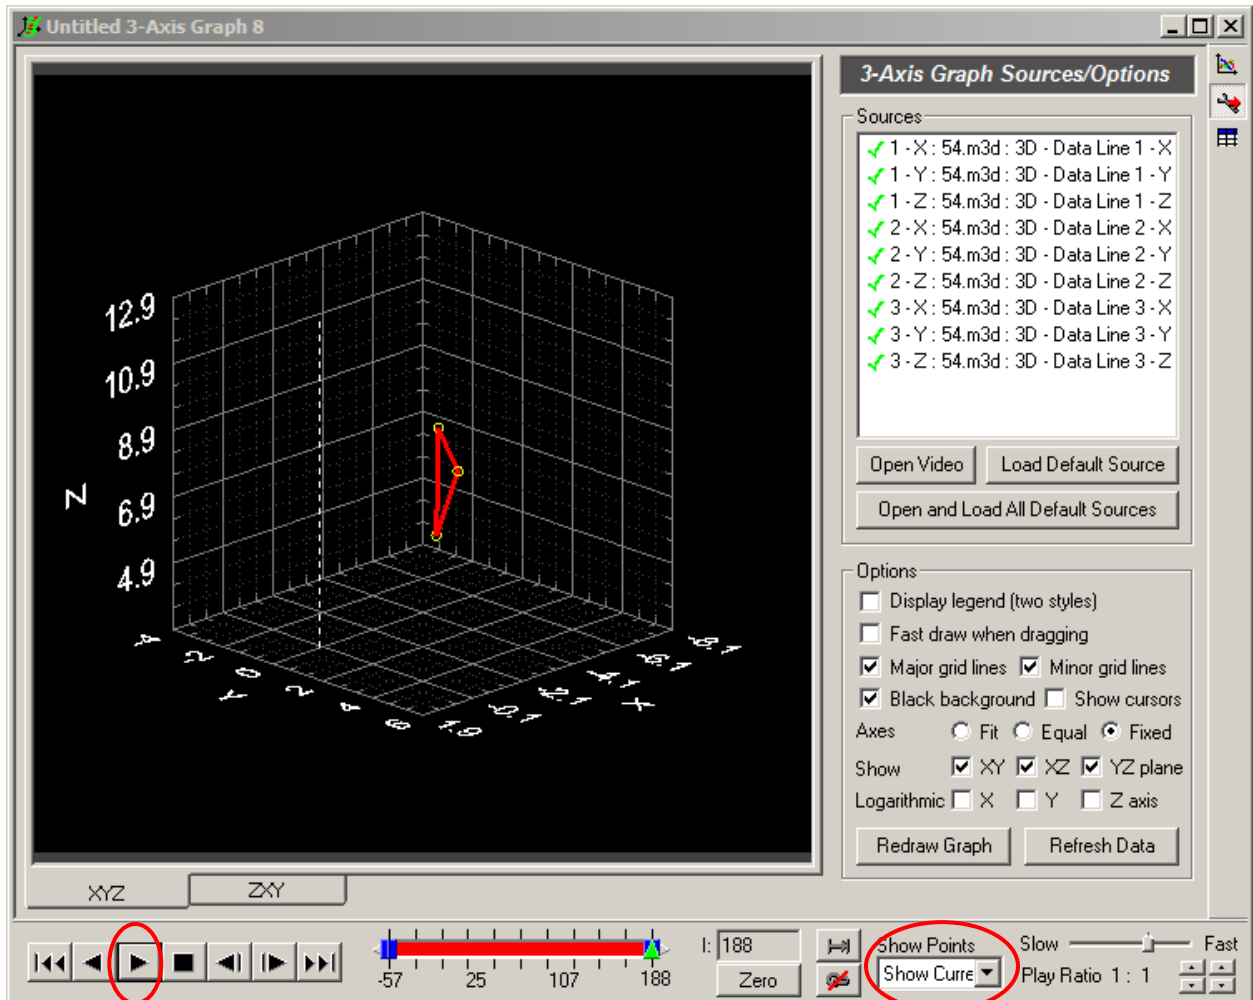

Figure 16. Motion of tracked features
7. Finally, select **Show Current** from the Show Points dropdown list at the bottom of the window and press the  button at the bottom of the graph window to see the motion of the tracked features as shown in Figure 16.